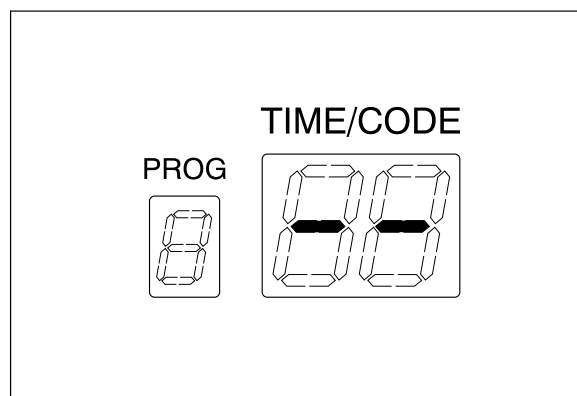

Figure 7.84
16. Rinse the alcohol supply pipe by performing the alcohol flushing process on the subcontrol panel. Check that the sterilized water in the container is decreasing as the process progresses. The process ends automatically in three minutes (see Figure 7.84).
18. Drain the pipe of rinsing water and fill the pipe with alcohol by performing the alcohol flush process on the subcontrol panel. The process ends automatically in three minutes (see Figure 7.84).